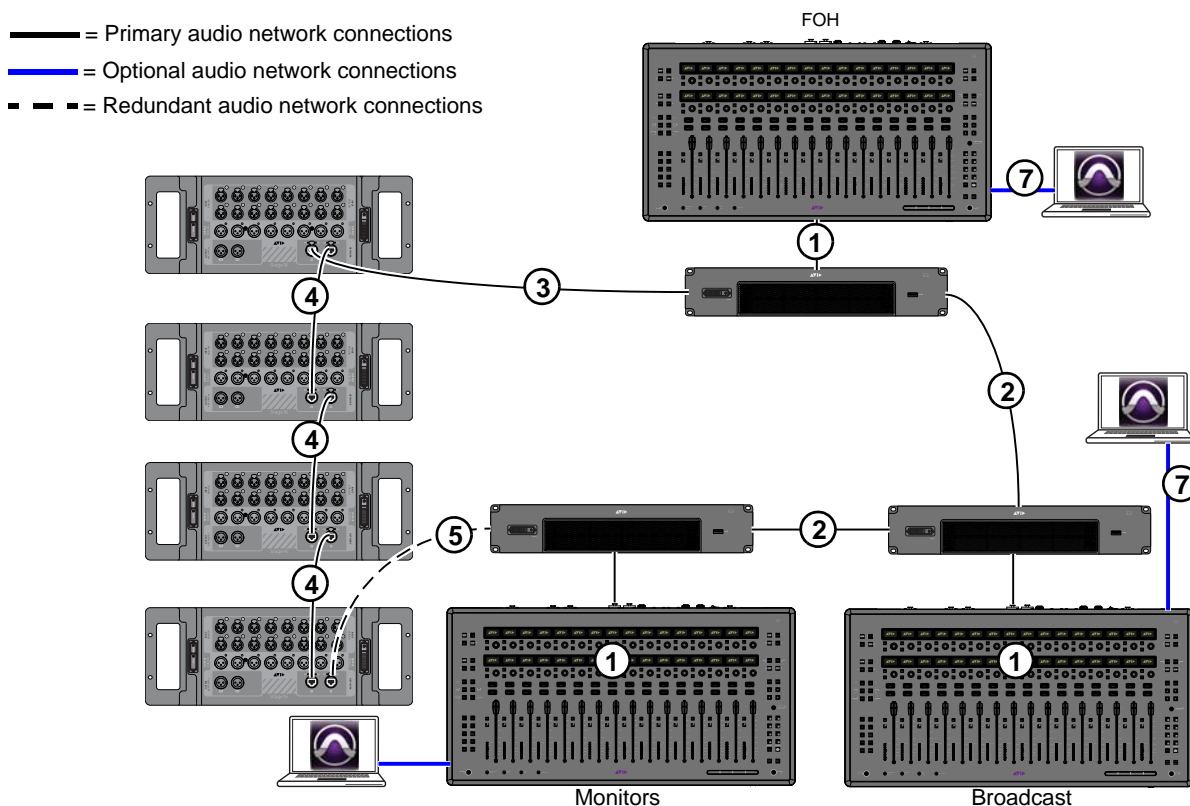

Figure 1. A shared Stage input configuration
- 3 Connect an Ethernet cable from an available Network port on the first E3 (“FOH” in Figure 1) to Network port **A** on the first Stage 16.